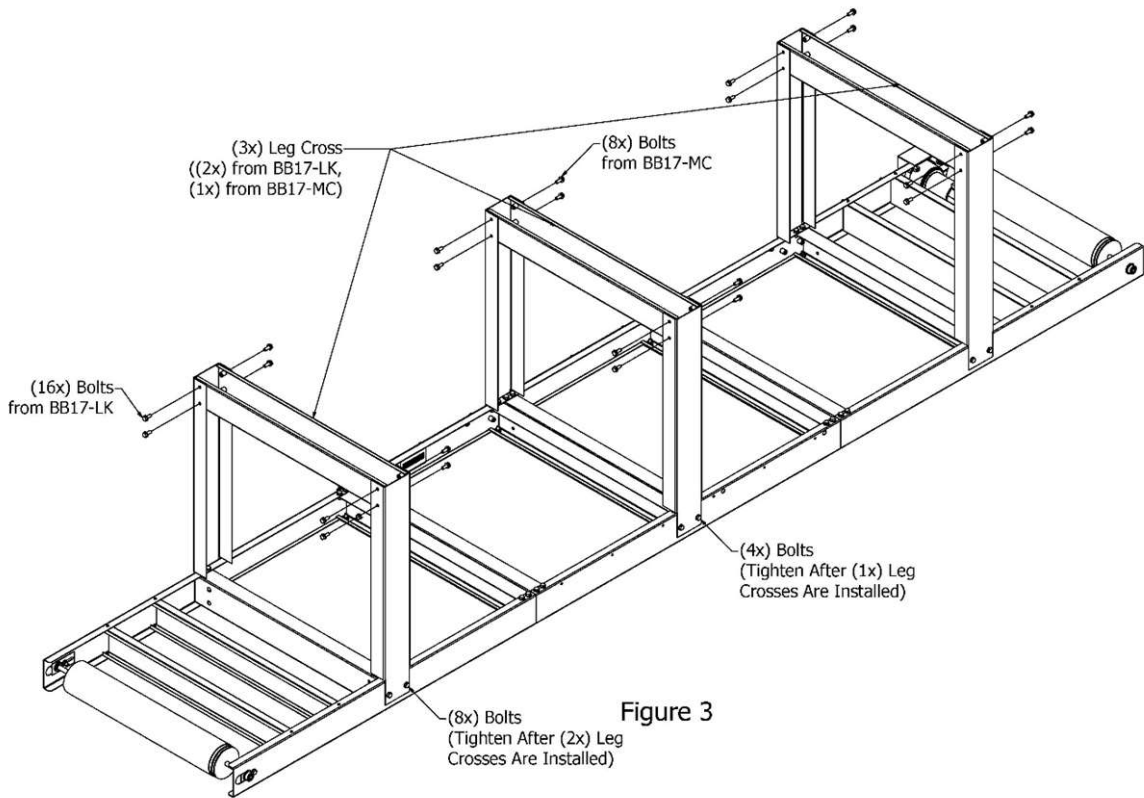

Figure 3
7. Install (3x) leg crosses to legs with (24x) bolts. (See Figure 3)